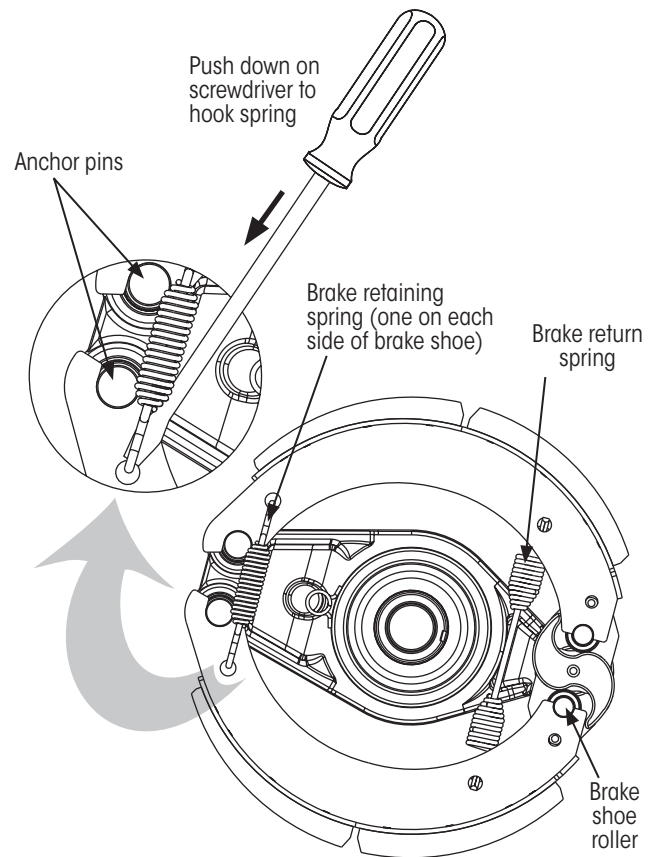
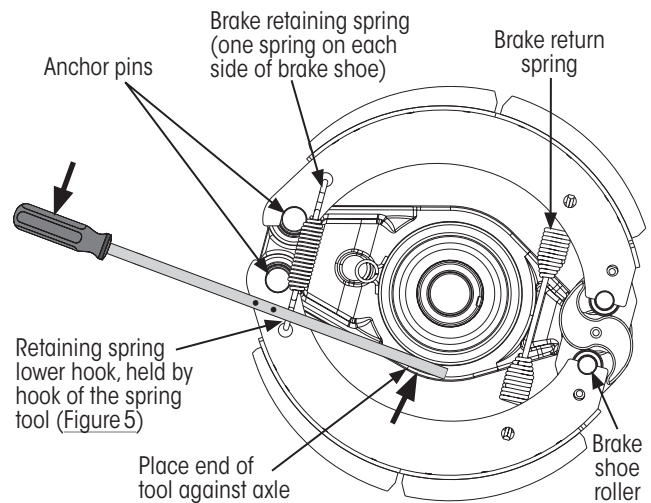

Figure 49: Installing brake retaining spring using Tool A
Figure 50: Installing brake retaining spring using Tool B
10. **While manually supporting** the lower brake shoe, use Tool A (Figure 49) or Tool B (Figure 50) to **hook** both brake retaining springs onto the anchor end of the brake shoes.